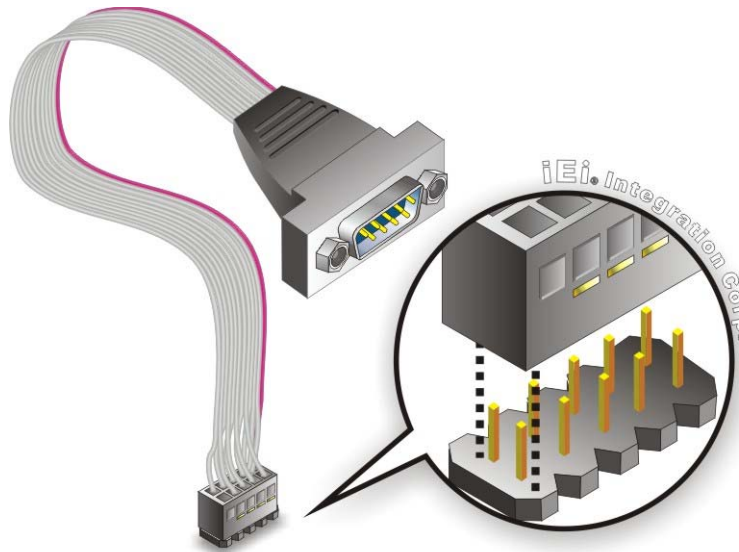

Figure 4-17: Single RS-232 Cable Installation
Step 2: Insert the cable connector. Insert the connector into the serial port box header. See Figure 4-17. A key on the front of the cable connectors ensures the connector can only be installed in one direction.